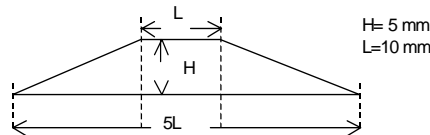

Fig.4.b.Wedge Section (enlarged view)
4.1 The competition table is shown in Fig.4. One common competition table will be used by all competitors. The gradient will be approximately 5.7 degrees. The edges between the inclined surfaces and the horizontal surface will be rounded off and there will be no joints at those edges. A neoprene rubber mat of 3mm thickness will be used on the top of the table to improve the grip of the wheels.